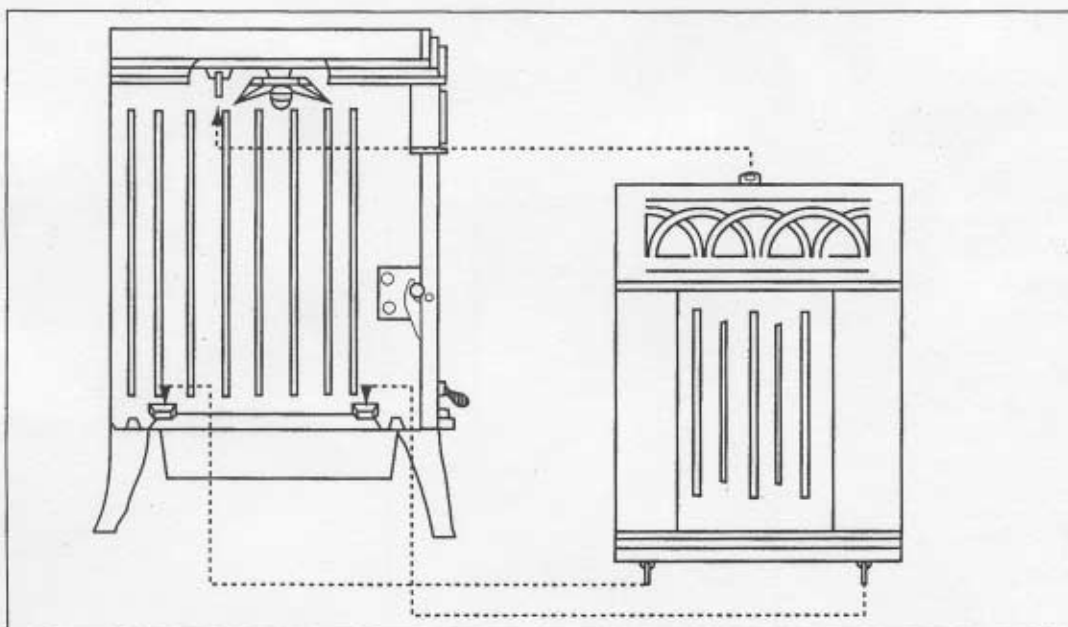

Figure 17
3. To make the unit lighter and easier to maneuver, remove the side panels. Remove the bolts at the inside bottom of the panels and lift up and out, then down to disengage the top pin as shown in Figure 17.